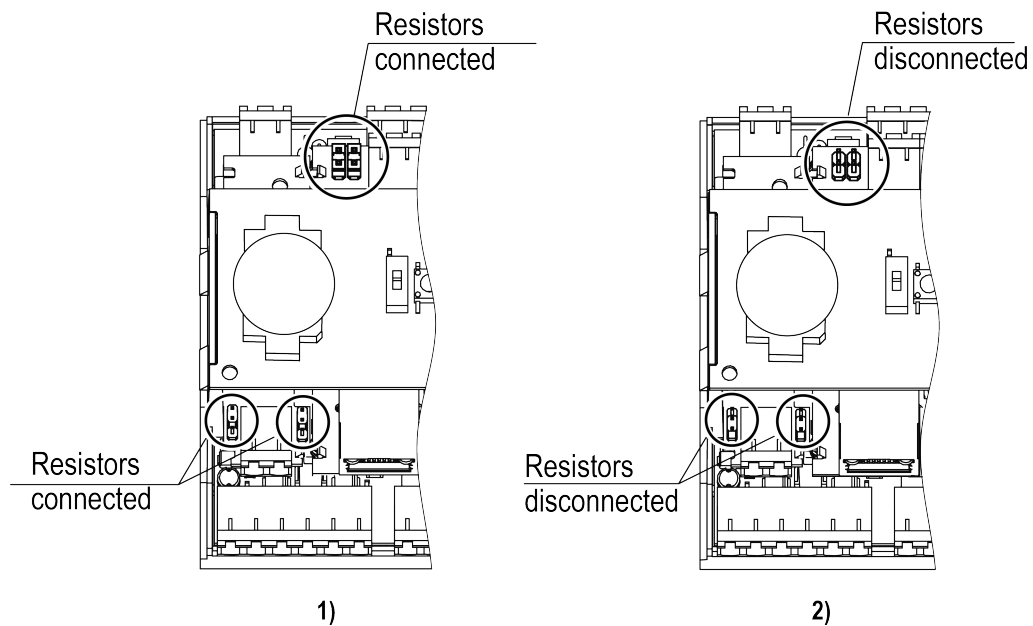

Fig. 6.23 RS485 termination resistors jumpers setting: 1 – RS485 termination resistors connected, 2 – RS485 termination resistors disconnected
2. Set the jumpers on the device board in position as shown in Fig. 6.23 below.